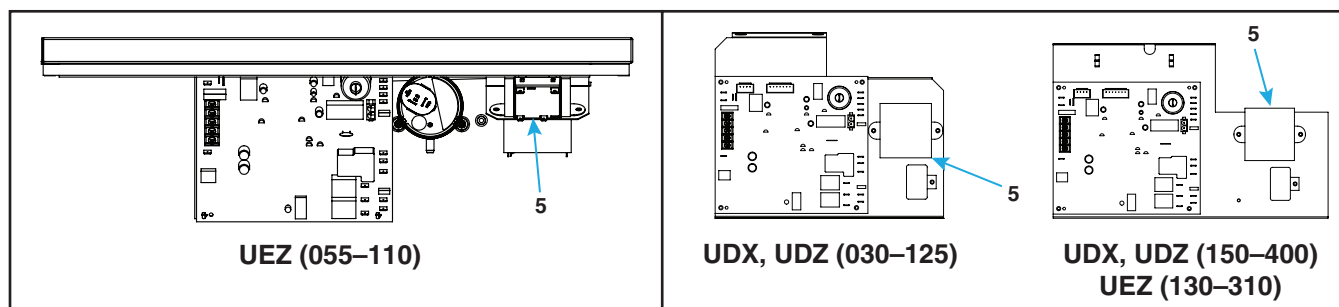
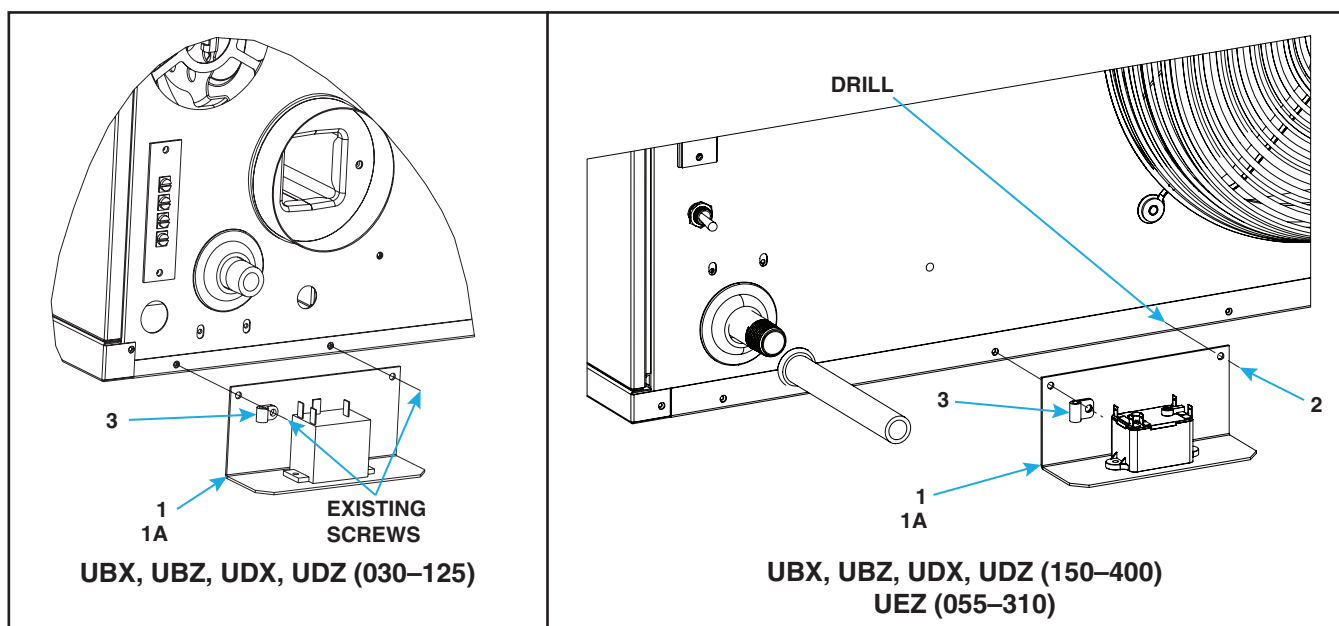

Figure 1. Transformer Location (Refer to Table 2)
Figure 2. Relay Installation (Refer to Table 2)
*See Figure 1 and Figure 2.
- a. Remove or open panel(s) as necessary and locate existing transformer (see Figure 1) mounted at top of control compartment for unit size 055–110 UEZ models or on control board at bottom of control compartment for unit size 130–310 UEZ and all UDX and UDZ models.
- d. Install replacement transformer (5) and secure using existing screws.
3. Install relay assembly on control unit and on all non-control units (see Figure 2):
- b. For model UBX, UBZ, UDX, and UDZ unit sizes 150–400 and all UEZ models, align relay assembly (1) bracket as shown and use bracket as template to drill hole in edge of cabinet bottom as shown.
- c. Secure relay assembly (1 and 1A) and cable clamp (3) as shown using existing screws for model UBX, UBZ, UDX, and UDZ unit sizes 030–125 or one existing screw and one screw (2) from kit for model UBX, UBZ, UDX, and UDZ unit sizes 150–400 and all UEZ models.